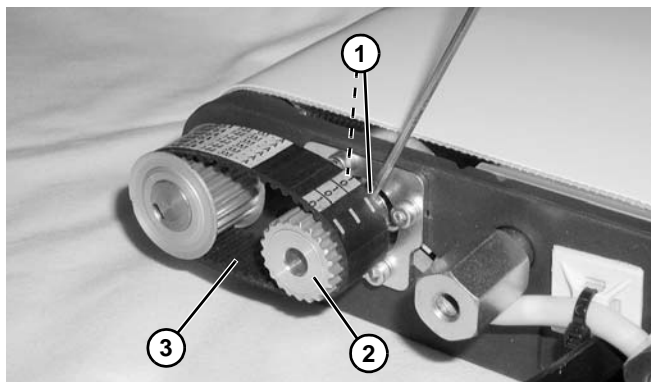

**Figure 130**
4. Loosen four clamp plate screws (**Figure 130, item 1**).
5. Loosen timing belt tension cam (**Figure 130, item 2**).